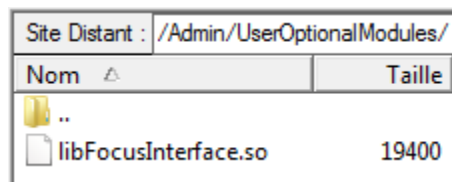

Figure 2: UserOptionalModules directory.
*UserOptionalModules* is a new folder wherein the Administrator can save newly created optional modules, see Fig 2. This folder contains a shared library for the Focus application. The Administrator needs to modify this library only when the Focus interface is used..